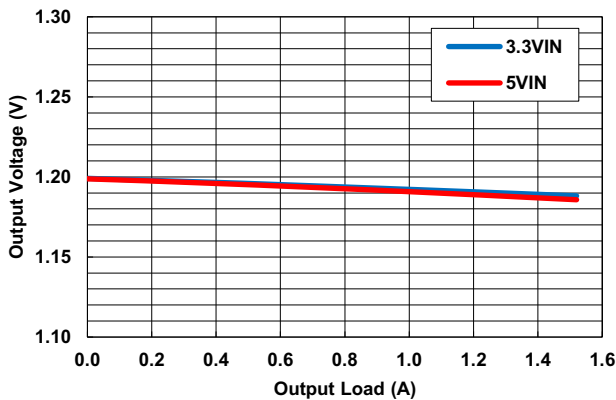

Figure 16. V_{OUT} Regulation vs Load, $V_{OUT2} = 1.2V$
- Not tested in production. Characterized using evaluation board. See load regulation diagrams (Figures 16 through 19). +105°C T_A represents near worst case operating point.